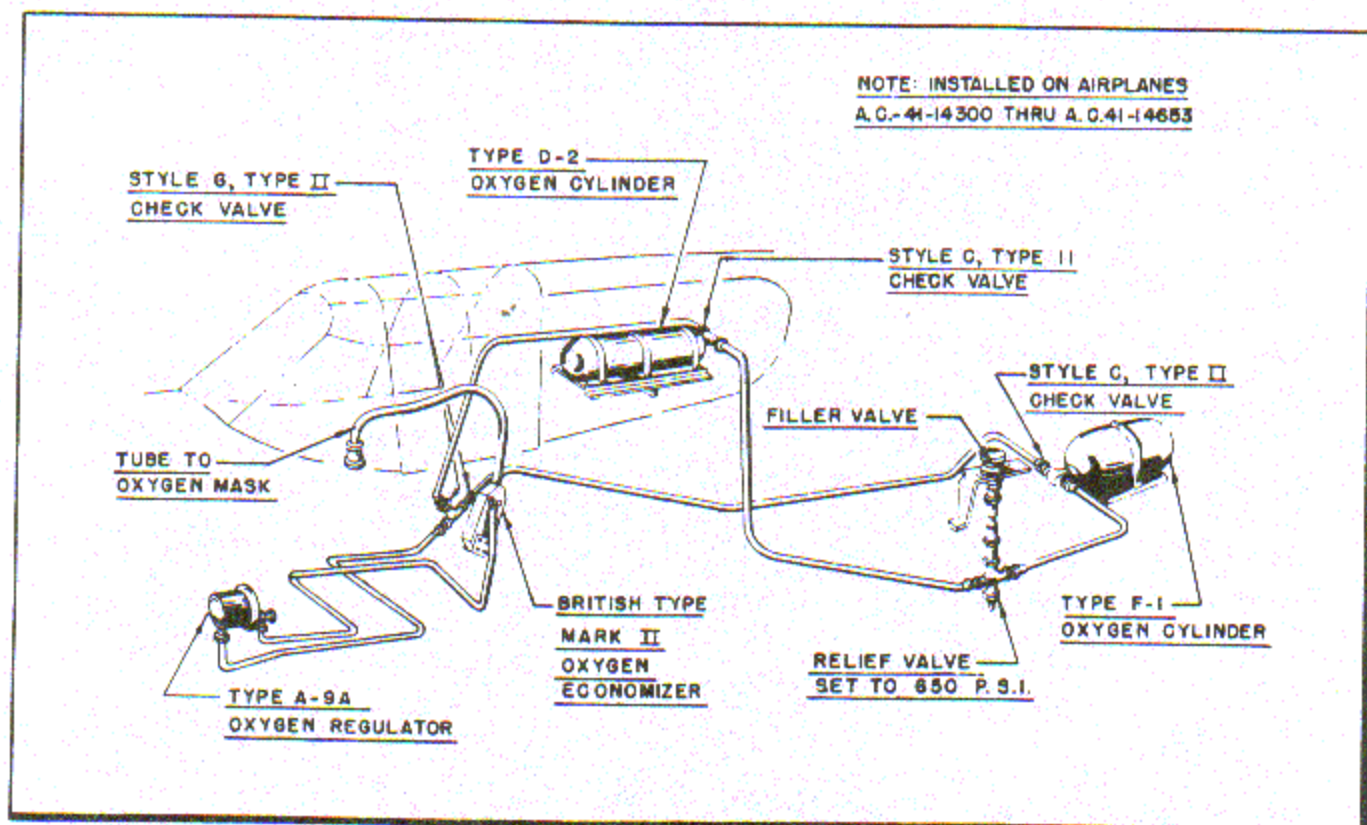

Figure 16 - Oxygen System
(2) For airplanes AC-41-14300 through AC-41-14653: Two oxygen cylinders, a type F-1 and a type D-2, are installed. The type F-1 oxygen cylinder is installed in the aft part of the fuselage as in paragraph b.(1). The type D-2 oxygen cylinder having an internal volume of 500 cubic inches is secured in a support installation above the fuselage fuel tank. (See figure 16.)
(3) The oxygen cylinders may be filled without removing them from the airplane by attaching a master cylinder to the filler valve located just inside the lower aft corner of the fuselage access door. Be sure that the oxygen cylinders have been filled before each flight.